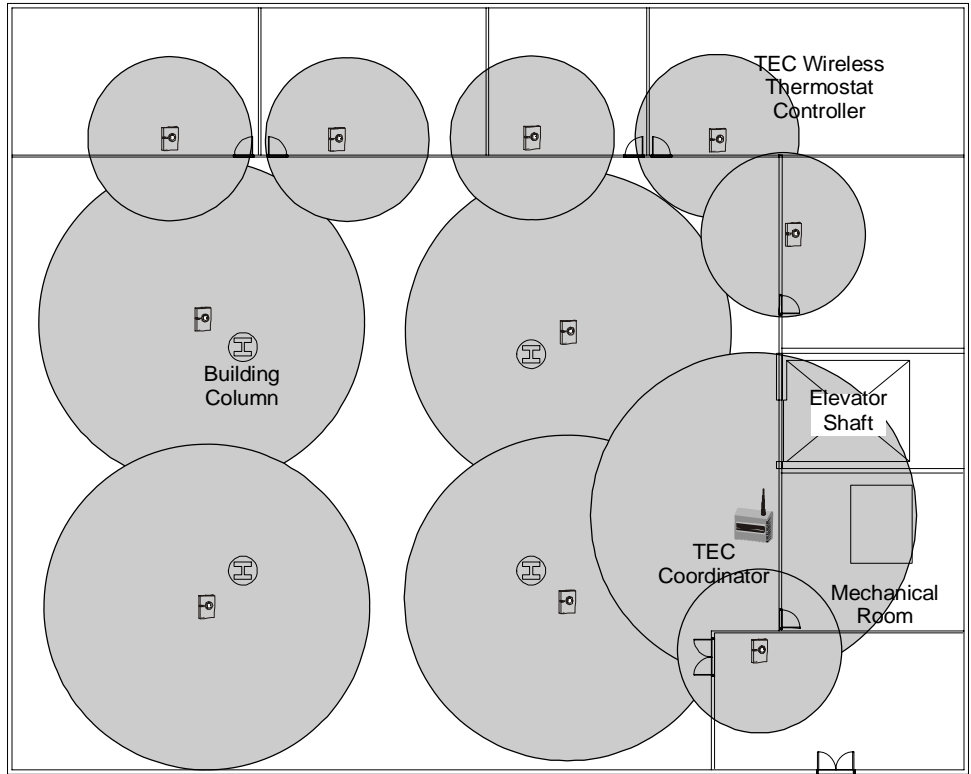

Figure 5: Building Floor Plan with TEC Wireless Thermostat Controllers and Circles Representing Wireless Signal Range
4. On your floor plans, draw a circle around each TEC Wireless Thermostat Controller and TEC20 Coordinator, to help determine the wireless signal range. Draw a 30-m (100-ft) diameter (15-m [50-ft] radius) circle if the device is transmitting in an open space (large circle). Draw a 10-m (30-ft) diameter (5-m [15-ft] radius) circle if the device is transmitting through walls (small circle). See Figure 5.